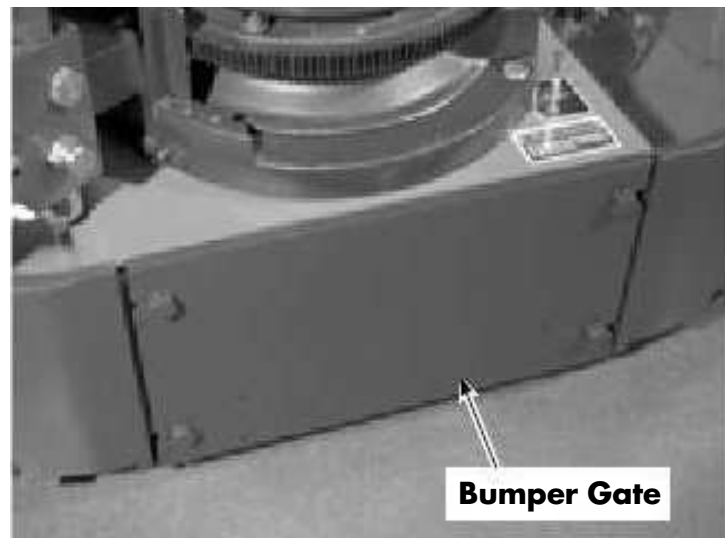

Figure 7-99. Removing Drive Unit
2. Remove the bumper gate. See Figure 7-99.